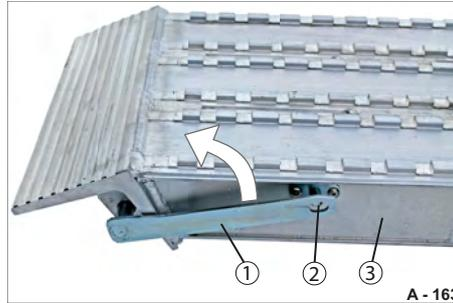

Fig. 174 Locking lever unsecured
- ▶ Swing the locking lever (Fig. 174/1) upwards.